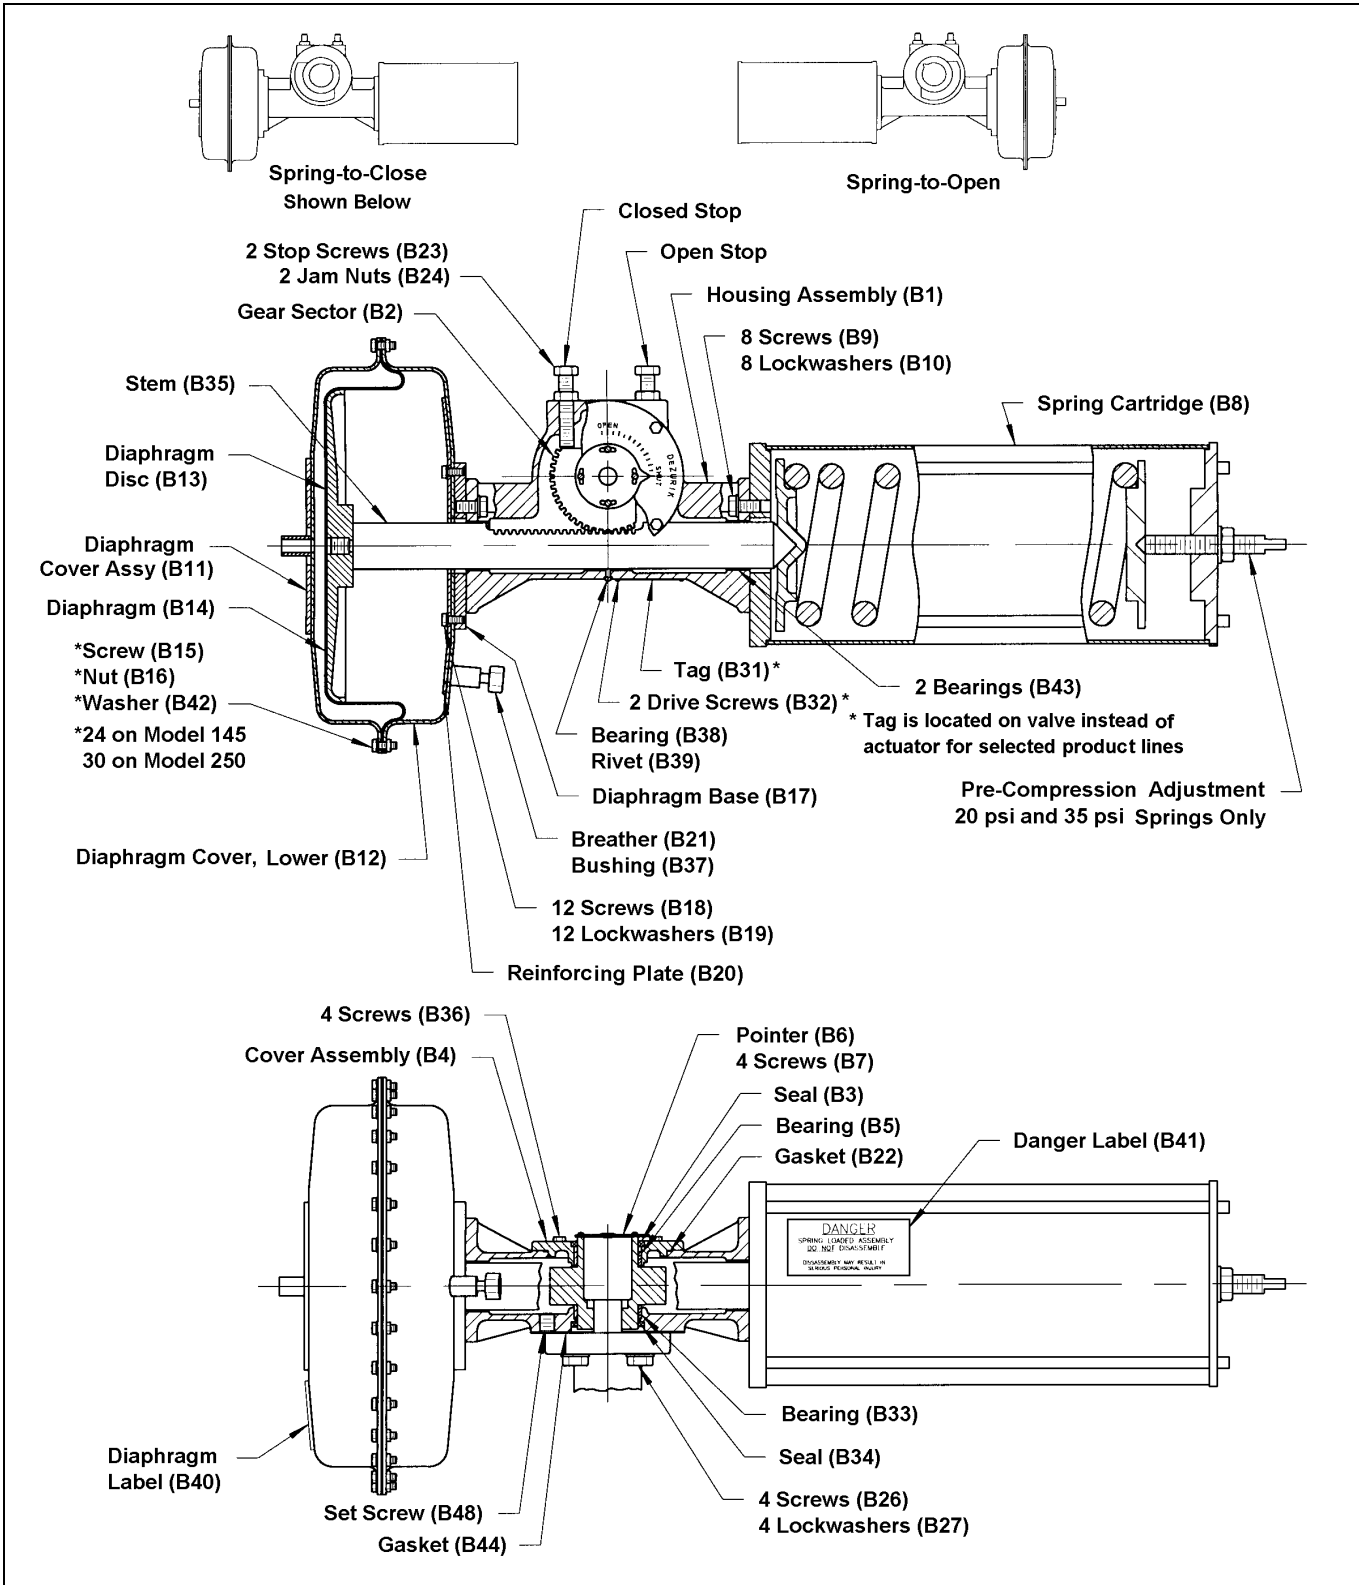

Figure 1-Parts Identification
The actuator is powered pneumatically, and rotates 90 degrees between the open and closed positions. The action of the actuator is either spring-to-close or spring-to-open, as determined by the orientation of the diaphragm and the spring cartridge, as shown in Figure 1. The action selected is shown on the actuator label. With spring-to-close, increasing signal pressure to the actuator opens the valve, and decreasing pressure closes the valve; with spring-to-open, increasing pressure closes the valve, and decreasing pressure opens the valve.
The open and closed position stops are the two hex head cap screws (B23) shown in Figure 1. The stops are adjustable and prevent the actuator from rotating beyond the open and closed positions of the valve. If the actuator is factory-mounted on the valve the stops are preset and do not require further adjustment. If the actuator is not mounted on the valve or if the actuator is removed and/or disassembled, the stops will require adjustment as described below. Refer to the Valve Instructions for the closed position requirements and adjust the stops with the actuator mounted on the valve. Refer to Figure 1 for component identification.
2. Loosen the jam nut (B24) on the appropriate stop screw (B23). Refer to Figure 1.
Pre-compression in the 20 PSI and 35 PSI (140 kPa and 240 kPa) springs only is adjustable. The springs are factory set so that air pressure of 5 PSI (35 kPa) less than the spring rating will just open the valve for spring-to-close or will just close the valve for spring-to-open. Pre-compression in 60 PSI (420 kPa) springs is not adjustable. Pre-compression settings in a 20 PSI or 35 PSI (140 kPa and 240 kPa) spring may be adjusted several PSI (kPa) by following the steps below. Refer to Figure 1 for component identification.
Refer to Figure 1 for component identification.
Before assembling the actuator, clean and inspect all parts. Worn parts-especially seal and bearings-should be replaced. Refer to Figure 1 for component identification and orientation. Note that the diaphragm, spring cartridge and gear sector positions depend upon whether the actuator action is spring-to-close or spring-to-open.
6. Note that the stem (B35) has one tooth with a punch mark, and the gear sector (B2) has two pair of teeth with punch marks. The one marked tooth in the stem must mesh between the pair of marked teeth that will provide 90° of gear sector rotation as the stem moves in the direction of the air stroke. The spring-to-close and spring-to-open configurations are shown in Figure 1. Accordingly, place the gear sector in position in the housing assembly (B1).